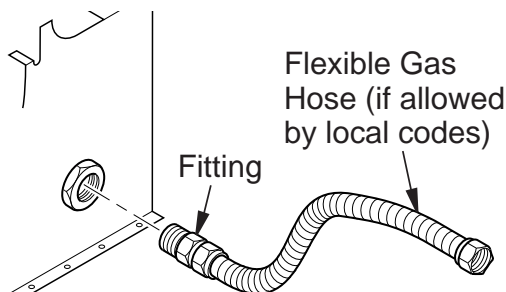

Figure 11 - Attaching Flexible Gas Hose to Heater
1. Connect approved flexible gas hose to gas control fitting in heater (see Figure 11, Page 13).